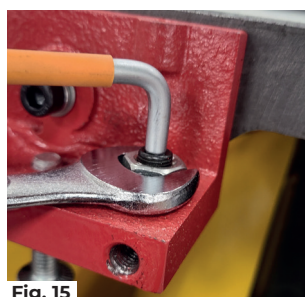

Fig. 15
- 6) Undo both nuts then use a hex key to wind the grub screws clockwise (down) only $\frac{1}{4}$ of a turn maximum to allow the table to drop down (Fig. 14 - Fig. 15).